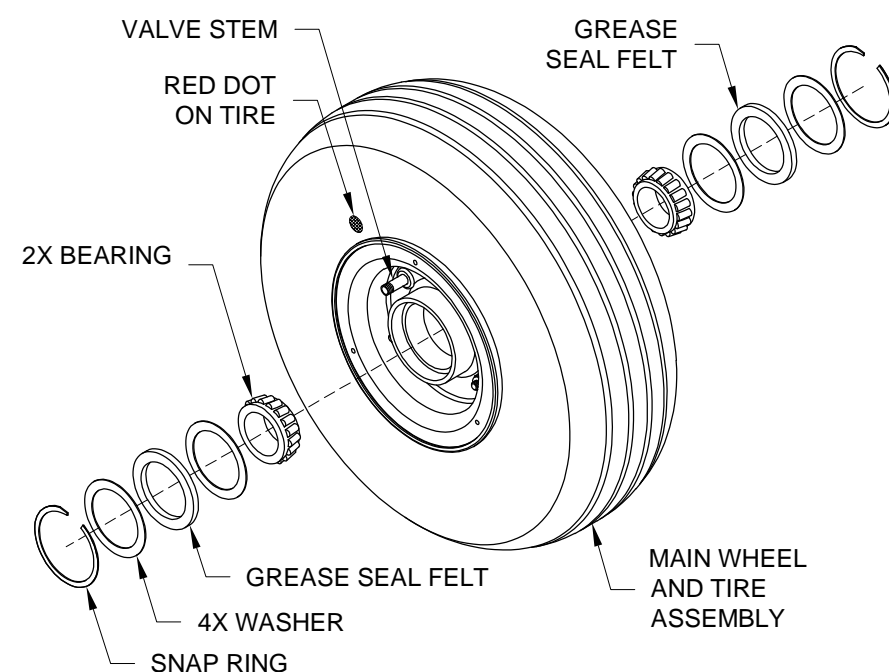

FIGURE 2: INSTALLING BEARINGS IN THE MAIN WHEEL & TIRE ASSEMBLY
Step 8: Reinstall the bearings, washers, and grease seal felts in the same order they were removed. See Figure 2.